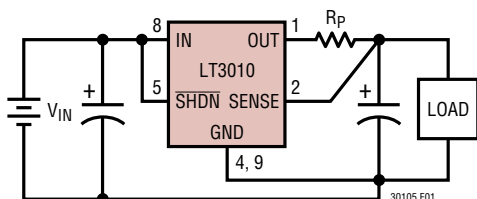

Figure 1. Kelvin Sense Connection
**SENSE (Pin 2):** Sense. For the LT3010-5, the SENSE pin is the input to the error amplifier. Optimum regulation will be obtained at the point where the SENSE pin is connected to the OUT pin of the regulator. In critical applications, small voltage drops are caused by the resistance ( $R_P$ ) of PC traces between the regulator and the load. These may be eliminated by connecting the SENSE pin to the output at the load as shown in Figure 1 (Kelvin Sense Connection). Note that the voltage drop across the external PC traces will add to the dropout voltage of the regulator. The SENSE pin bias current is 10 $\mu$ A at the nominal rated output voltage.